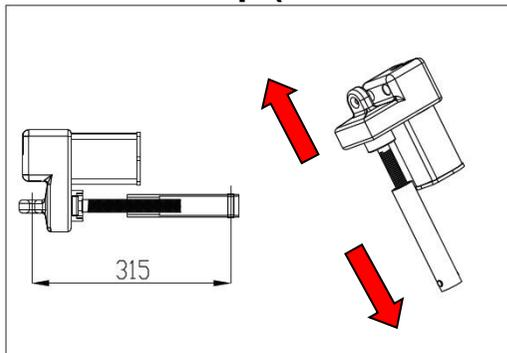

Figure 4.7.4
4.7.3 As shown in Figure 4.7.4, the lifting motor should be adjusted to a minimum stroke of 315 mm to be set up (about five turns in the end).